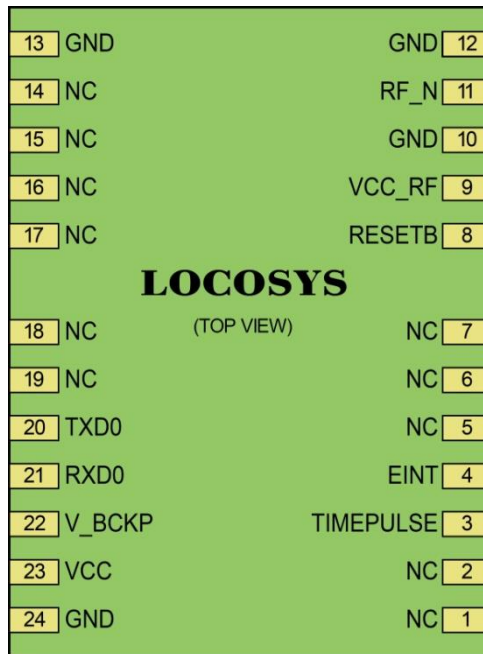

Figure 4: Pin Assignment
1. Refer to Fig 4 and Table 15 for the application of controlling an external active antenna and getting its status.